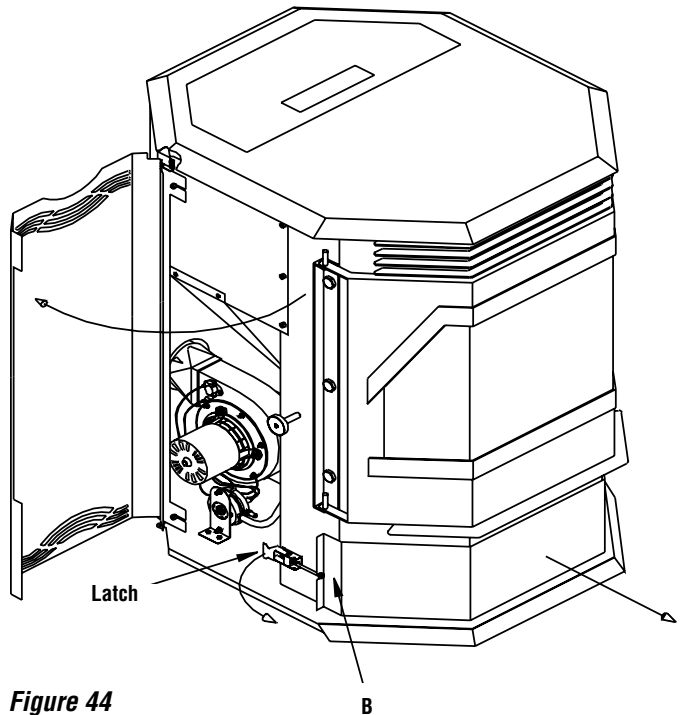
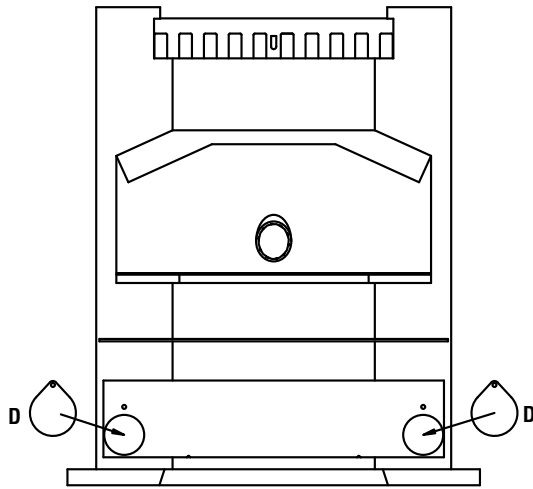

Figure 44
Figure 46A
CAUTION: Do not remove the ash drawer when the stove is hot. To remove the ash drawer, swing open the left and right side doors. Rotate the lever on latch B (see *Figure 44*) out from the stove to release the ash drawer. Do the same with the latch on the right side of the stove. Pull the ash drawer forward and away from the stove.
6. Remove the ash drawer (see **Figures 44**) to locate the lower left and right tear drop shaped flue passageways (see D in **Figures 46A and 46B**).